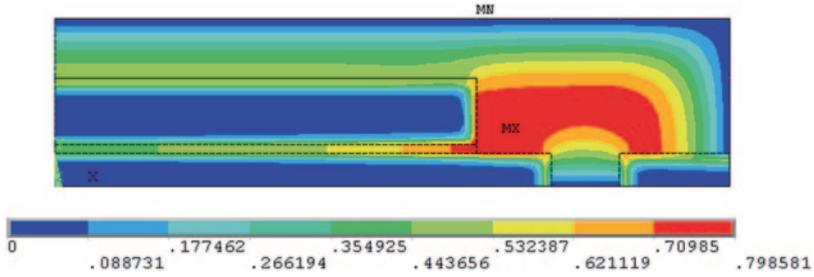

Fig. 9.74 Contour plot of wetness
- *Contour Nodal Solution Data* dialog box appears. Select **DOF Solution** and **Nodal Temperature**; click on **OK**. The contour plot appears, as shown in Fig. 9.74.